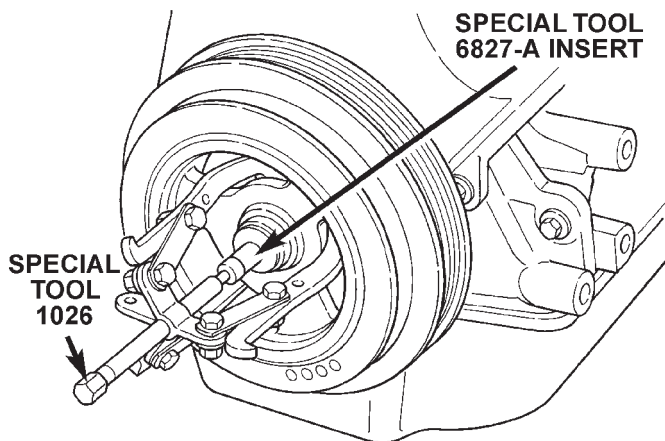

Fig. 68 Crankshaft Damper—Removal
(1) Using Special Tool 1026 and Insert 6827-A, remove crankshaft damper (Fig. 68).